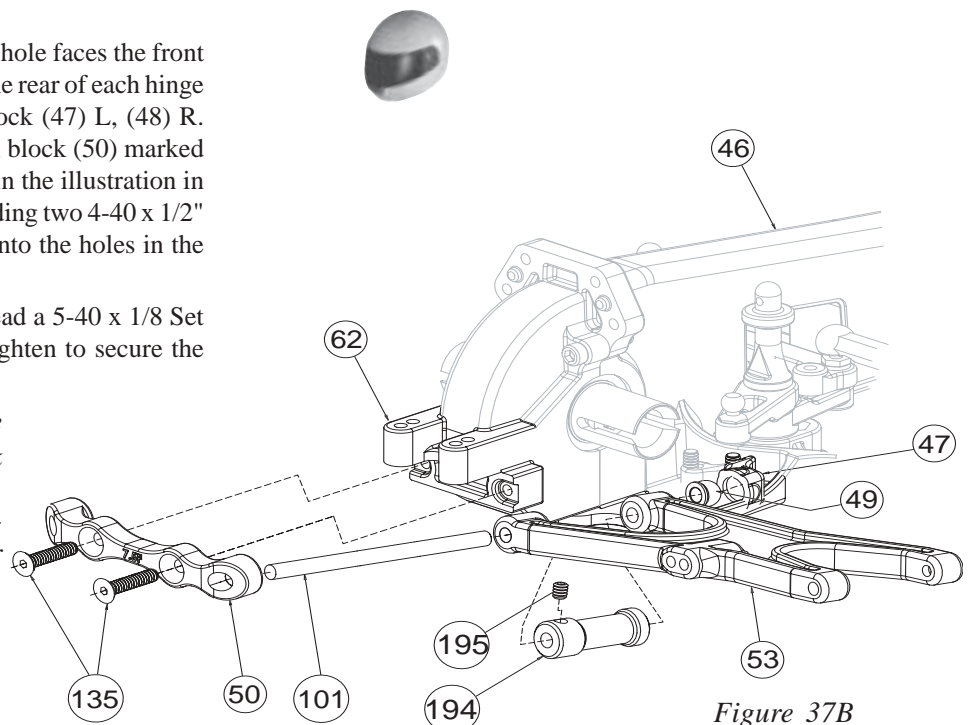

Figure 37B
- 1. Slide a 1/8" inner hinge pin (101) through the larger holes of each of the two front arms (53) also passing through the Hinge Pin Retainer (194).
- 2. Position the arm so that the shock mount hole faces the front of the chassis (46). Place one pivot ball (49) on the rear of each hinge pin. Insert the arm into the inner front pivot block (47) L, (48) R. Capture the front arms by placing the front main block (50) marked with "7.5F" onto the inner hinge pins as shown in the illustration in Figure 37B. Secure the front main block by threading two 4-40 x 1/2" flat head screws (135) through the main block into the holes in the front diff cover (62).
- 3. After securing the front main block, thread a 5-40 x 1/8 Set Screw (195) into the Hinge Pin Retainer and tighten to secure the hinge pin.